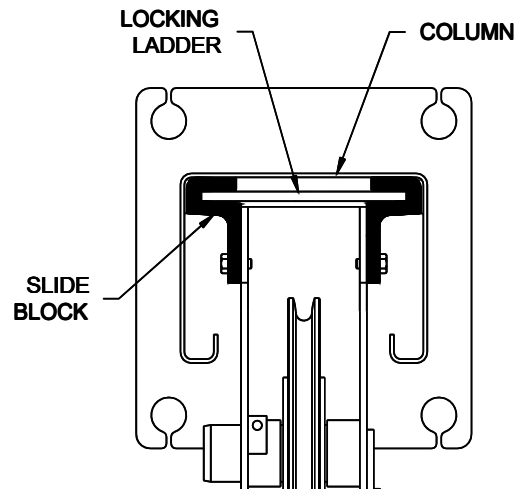

Fig 10 – Locking Ladder Orientation
- 18) Raise the locking ladder, push the column against the slide blocks, and lower the ladder into the slide blocks, **Fig 10**.